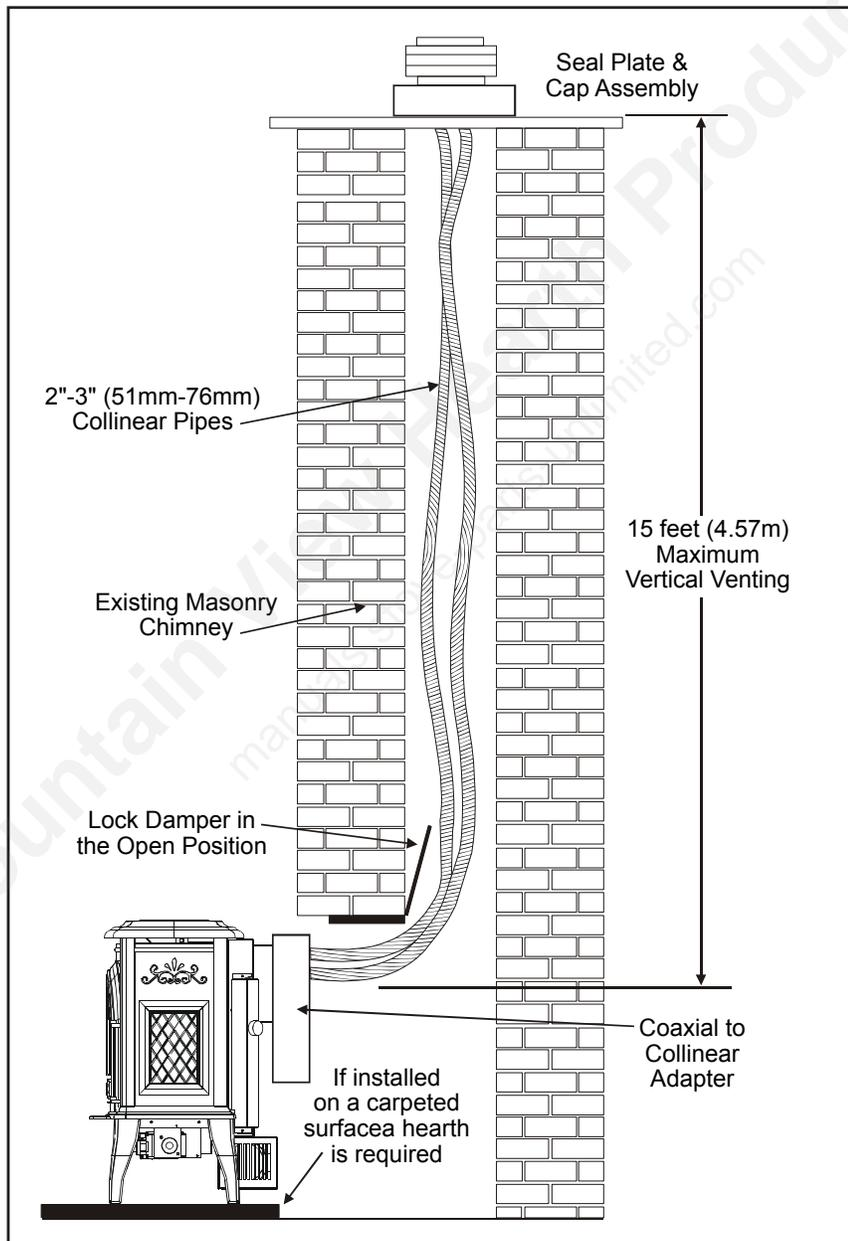

Figure 43: Hearth Mount Installation.
4. After a minimum of 10 minutes operation, test the chimney draft with a smoke match at the top row of the pattern to confirm that there is adequate draft or 'pull' at the openings around the body of the Drafthood Adaptor, as shown in Figure 43.